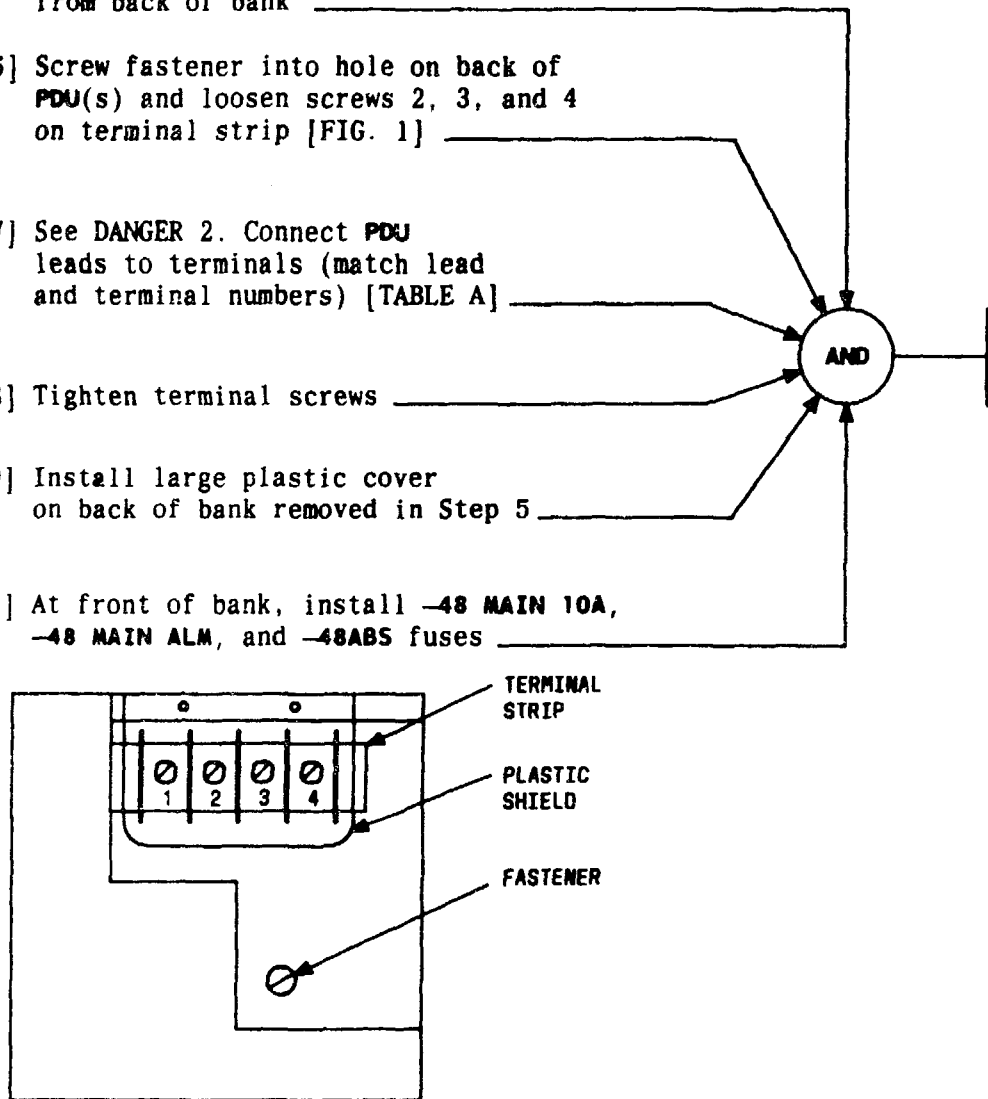

FIG. 1 - Rear View of PDU Slot
To install power distribution unit (PDU), straighten leads and slide PDU into slot. At rear of bank connect spade lugs for leads 2, 3, and 4 to same terminals under plastic shield at top of slot [FIG. 1, Page 2]. Screw fastener into hole on back of PDU. To remove PDU, reverse these operations
- [6] Screw fastener into hole on back of PDU(s) and loosen screws 2, 3, and 4 on terminal strip [FIG. 1]